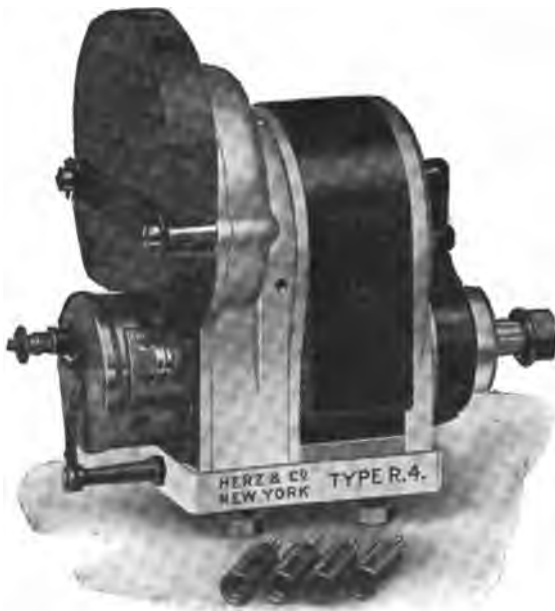

Fig. 106. Herz Magneto
*Herz Ball-Governor Type.* Another method of accomplishing the same end is the Herz automatic coupling, shown in Figs. 104 and 105. This consists of two juxtaposed disks, each of which is provided with five grooves running in a direction opposite to those of the other disk. Five steel balls are held in these grooves and act like the weights of a governor, being forced outward in direct proportion to the speed of the motor, thus imparting a twisting movement to the magneto armature with relation to its shaft. The device is supplied either as an integral part of the magneto or as an independent coupling. The range of movement is 40 degrees, the adjustment being varied by altering the curve of the grooves. Fig. 106 shows the Herz magneto. In the Eisemann, spindles having grooved slots of several different pitches are supplied, giving from 19 to 60 degrees of advance. The Atwater Kent, Connecticut, and Westinghouse ignition systems may also be had with automatic advance operated by a centrifugal governor.